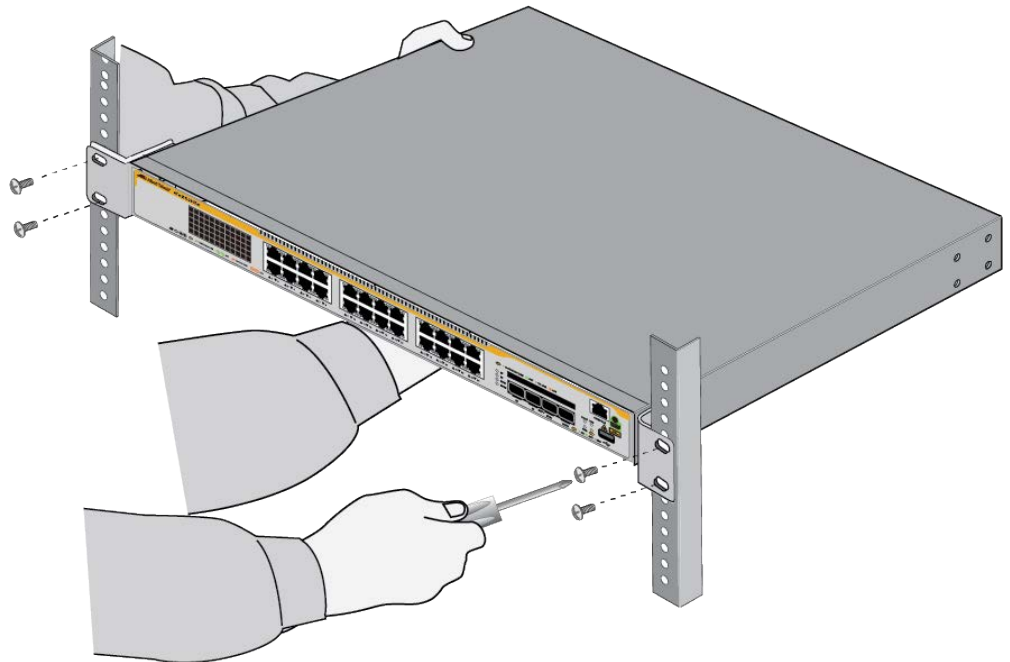

Figure 61. Installing the Switch in an Equipment Rack
6. Have another person hold the switch in the equipment rack while you secure it using standard equipment rack screws (not provided). See Figure 61 on page 95.